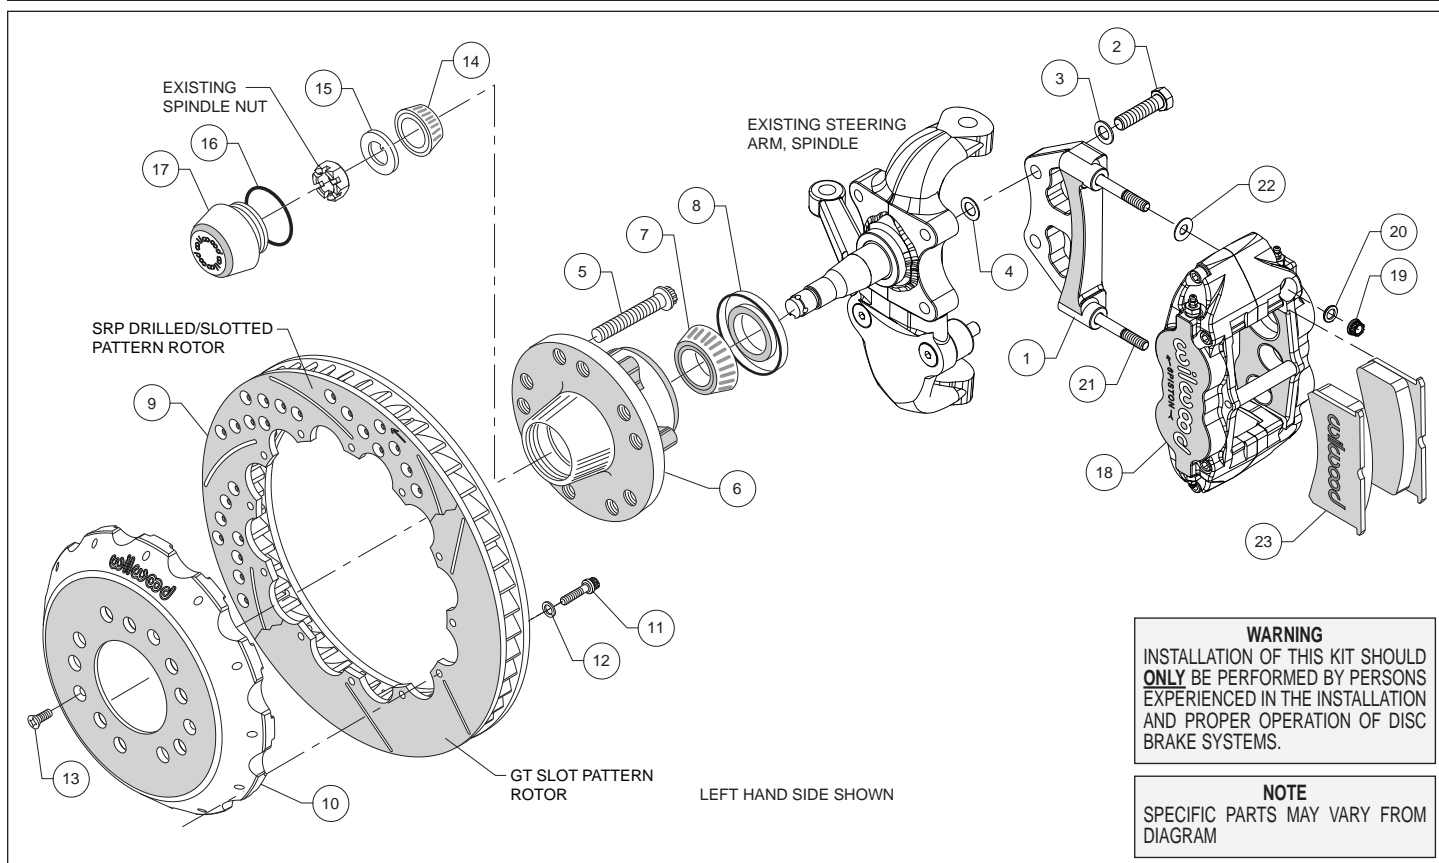
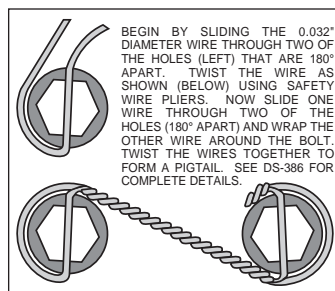

Figure 1. Typical Installation Configuration
Figure 3. Safety Wire Diagram
Assembly Instructions (numbers in parenthesis refer to the parts list on the preceding page, and Figure 1):
- The caliper mount bracket (1) should initially be installed with clean, dry threads on the mounting bolts. Orient the bracket as shown in Figure 1, and install using bolts (2) and washers (3). Initially place one .032" thick shim (4) on each bolt between the bracket and upright, Figure 1 and Photo 1. Temporarily tighten the mounting bolts. **NOTE:** *The bracket must fit squarely against the mount bosses on the upright.* Inspect for interference from casting irregularities, machining ridges, burrs, etc. Later, after the caliper alignment has been checked, the mount bolts will be secured using red *Loctite*® 271.
- Install the grease seal (8) by pressing into the backside of the hub (6), flush with the end of the hub, Photo 3.
- Orient the rotor (9) and the hat (10) as shown in Figure 1 and Photo 4. Attach rotor to hat using bolts (11) and washers (12). Using an alternating sequence, apply red *Loctite*® 271 to the threads and torque bolts to 155 **in-lb**. For an added measure of security, the bolts may be safety wired using standard 0.032 inch diameter stainless steel safety wire as shown in Figure 3. Refer to Wilwood's data sheet DS-386 (available at www.wilwood.com/Pdf/DataSheets/ds386.pdf) for complete safety wire installation instructions.
- NOTE:** This kit contains distinct right and left hand calipers that must be mounted in a specific direction, as described below. Lubricate the caliper mounting studs (21) with lightweight oil. Initially place one .035" thick shim (22) on each stud between the caliper and the bracket, as shown in Figure 1 and Photo 7. Mount the caliper (18) onto the bracket (1) using lock nuts (19) and washers (20), Figure 1. Ensure that the caliper is mounted so the largest pistons are at the rotor exit end of the caliper, in relation to the direction of rotor rotation. Temporarily tighten the lock nuts and view the rotor through the top opening of the caliper. The rotor should be centered in the caliper, Photo 8. If not, adjust by adding or subtracting shims (4) between the bracket and the upright. Always use the same amount of shims on each of the two mounting bolts. Once the caliper alignment is correct, remove the bracket mounting bolts (2) one at a time, apply red Loctite® 271 to the threads, and torque to 90 ft-lb.